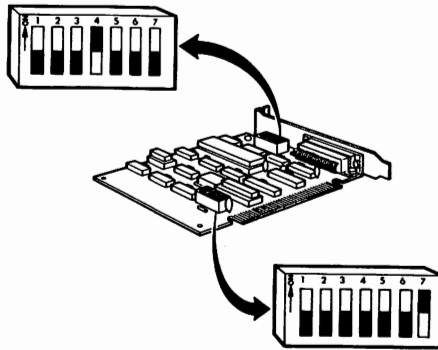

Figure 2-2. Location of DIP switches on ASA Communications Adapter board.
3. Locate the DIP switches on the ASA Communications Adapter board. See Fig. 2-2.